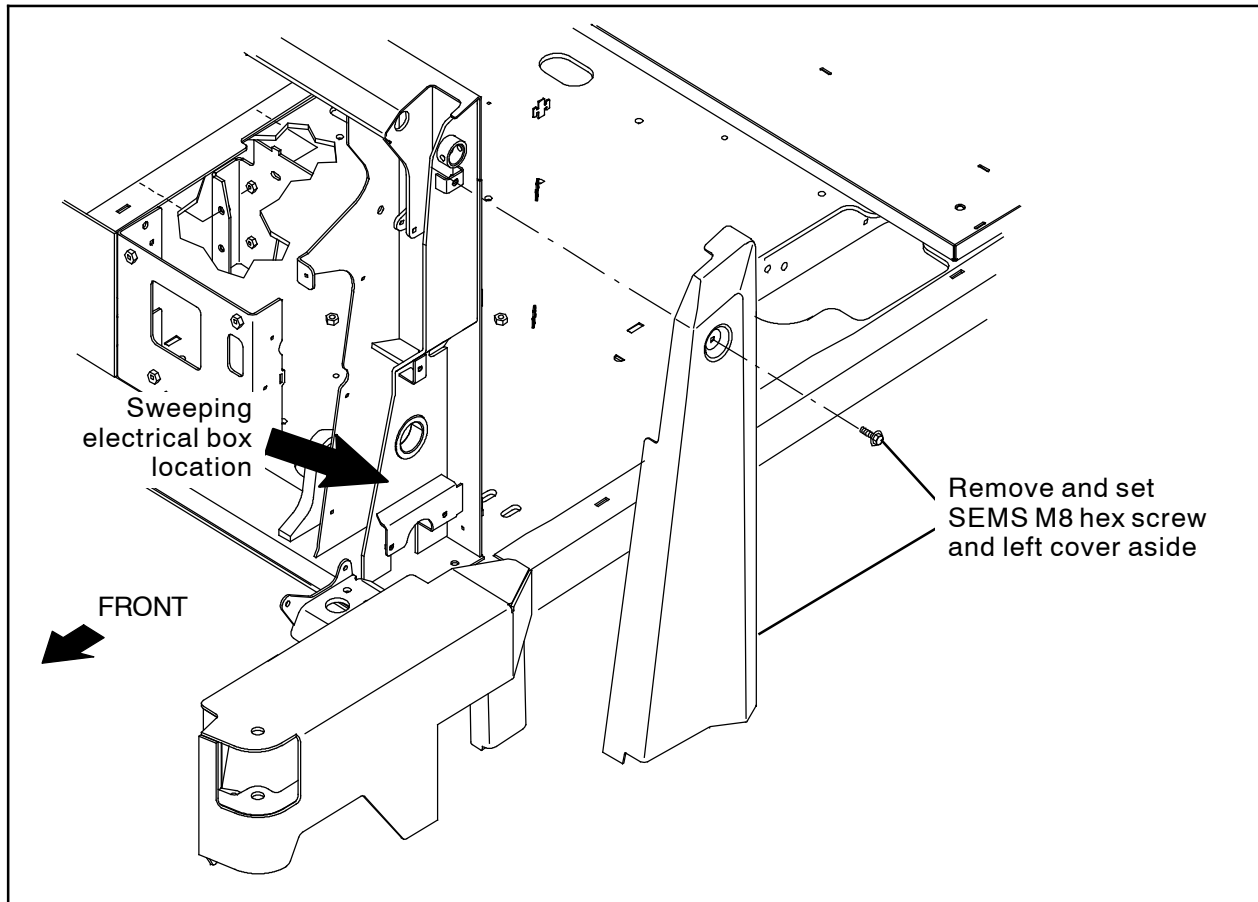

FIG. 1
1. Remove the left cover from the machine to access the sweeping electrical box. Set the cover and the SEMS M8 hex screw aside. (Fig. 1)
12. Reinstall the left cover onto the machine. (Fig. 1)